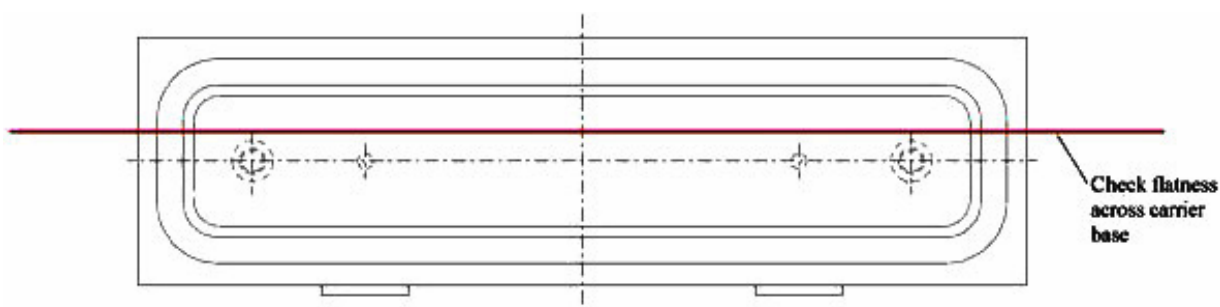

Figure 2: Side Bearer Holder Flatness Checks
4. Check that the base of the carrier is flat. Using a straight edge placed on the base alongside the two dowels (see Figure 2) attempt to place a 0.5mm feeler gauge between the straight edge and base. Renew any carrier where a 0.5mm feeler gauge can be inserted.